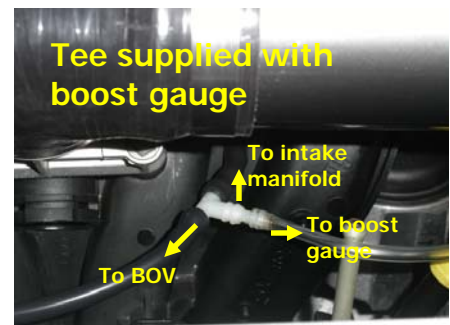
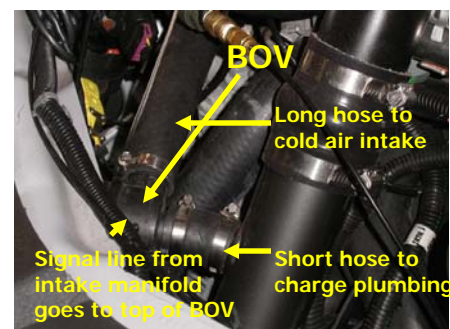

Fig. 26
Fig. 27
29. Connect the blow off valve and boost signal lines using the plastic tee supplied with the boost gauge (Figure 26). Short signal line connects to the intake manifold, the longer line goes from the tee to the top of the BOV (Figure 27).